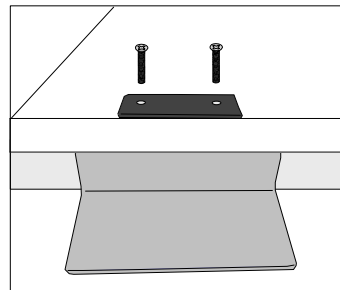

FIG. 3
6. Connect 2.5 mm power plug cable from battery pack to 2.5mm power jack on the valve body (see FIG 3.)
3. Use provided #10 screws to attach pedal. (FIG.3)